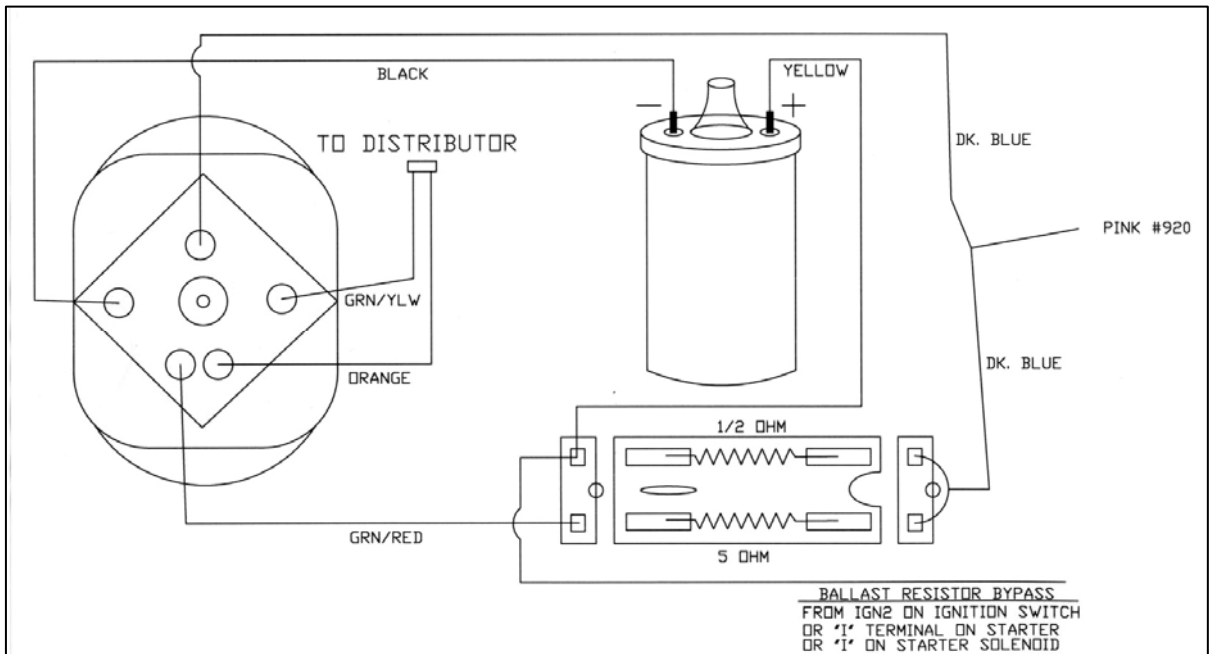

Figure 9-2B Mopar Electronic Ignition with Dual Ballast Resistor
- 9.2.11** Connect 920 (pink) to both dark blue wires as labeled in Figure 9-2B. Connect a ballast bypass wire as labeled in Figure 9-2B. **NOTE:** This ballast bypass wire will only provide 12 volts when cranking the engine. This is done for ease of starting the engine.